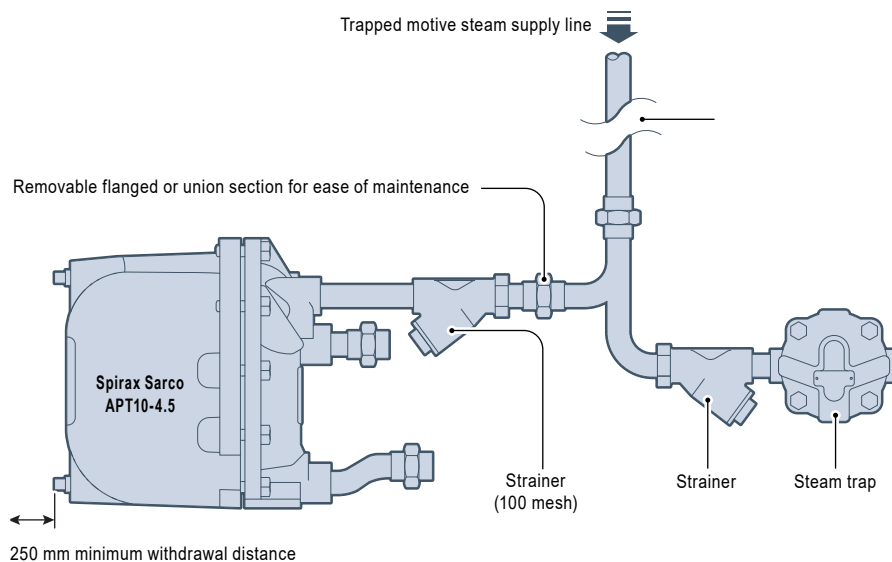

Fig. 4 Suggested coupling of motive supply and exhaust lines
3.3 Connections (refer to installation diagram Fig. 4 opposite)
- 4.1** After ensuring inlet and outlet pipe connections and steam motive/exhaust connections are coupled in accordance with Fig.4 and 5, slowly open motive steam inlet line to supply pressure to the APT10-4.5. Ensure exhaust/balance line is open and not restricted in any way.